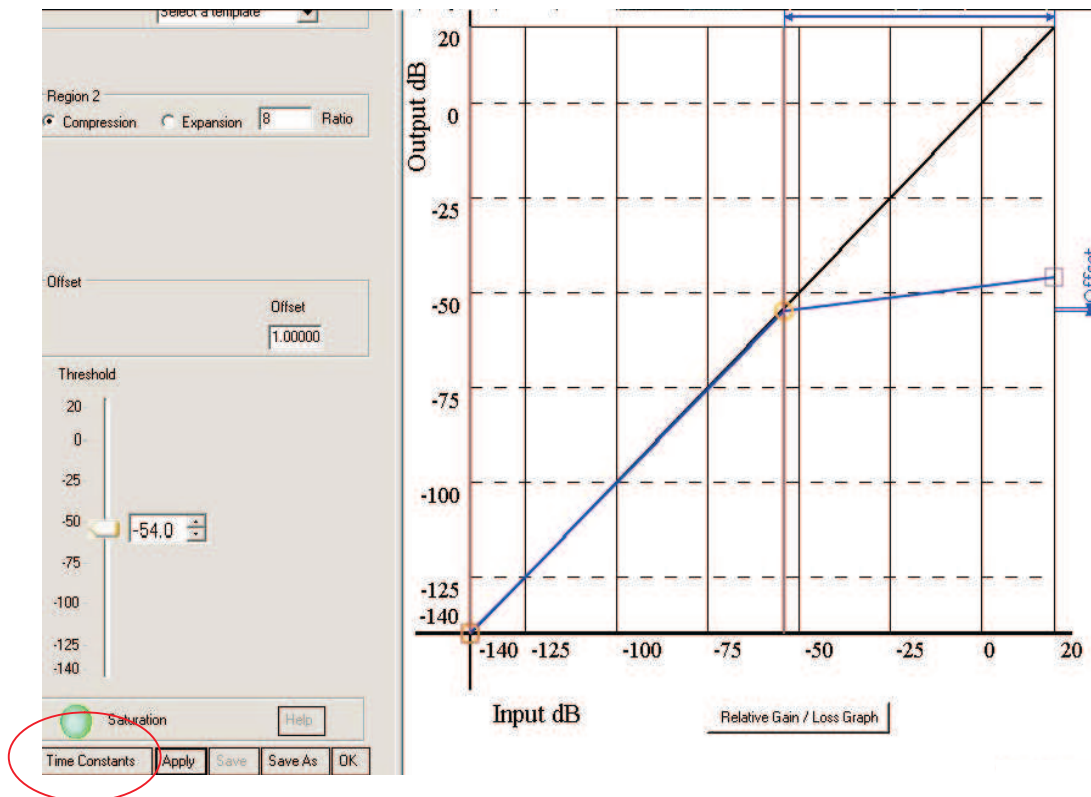

Figure 14. Time Constants Button
**Time constants:** Select the time constants to adjust the energy, attack, and decay filters (Figure 14).